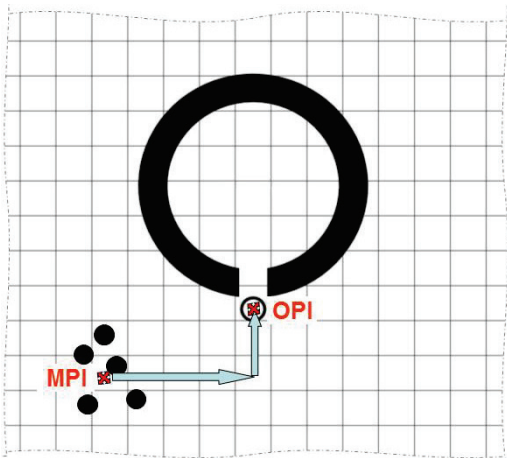

Figure 6: MPI adjustment
- Mark the MPI (Mean Point of Impact) and measure the vertical and horizontal distance between the MPI and the OPI (Optimal Point of Impact). See figure 6.
- Figure 6 describes a bullet trajectory zeroed to a range of 50 and 250 meters. This allows the shooter to make quick adjustments when